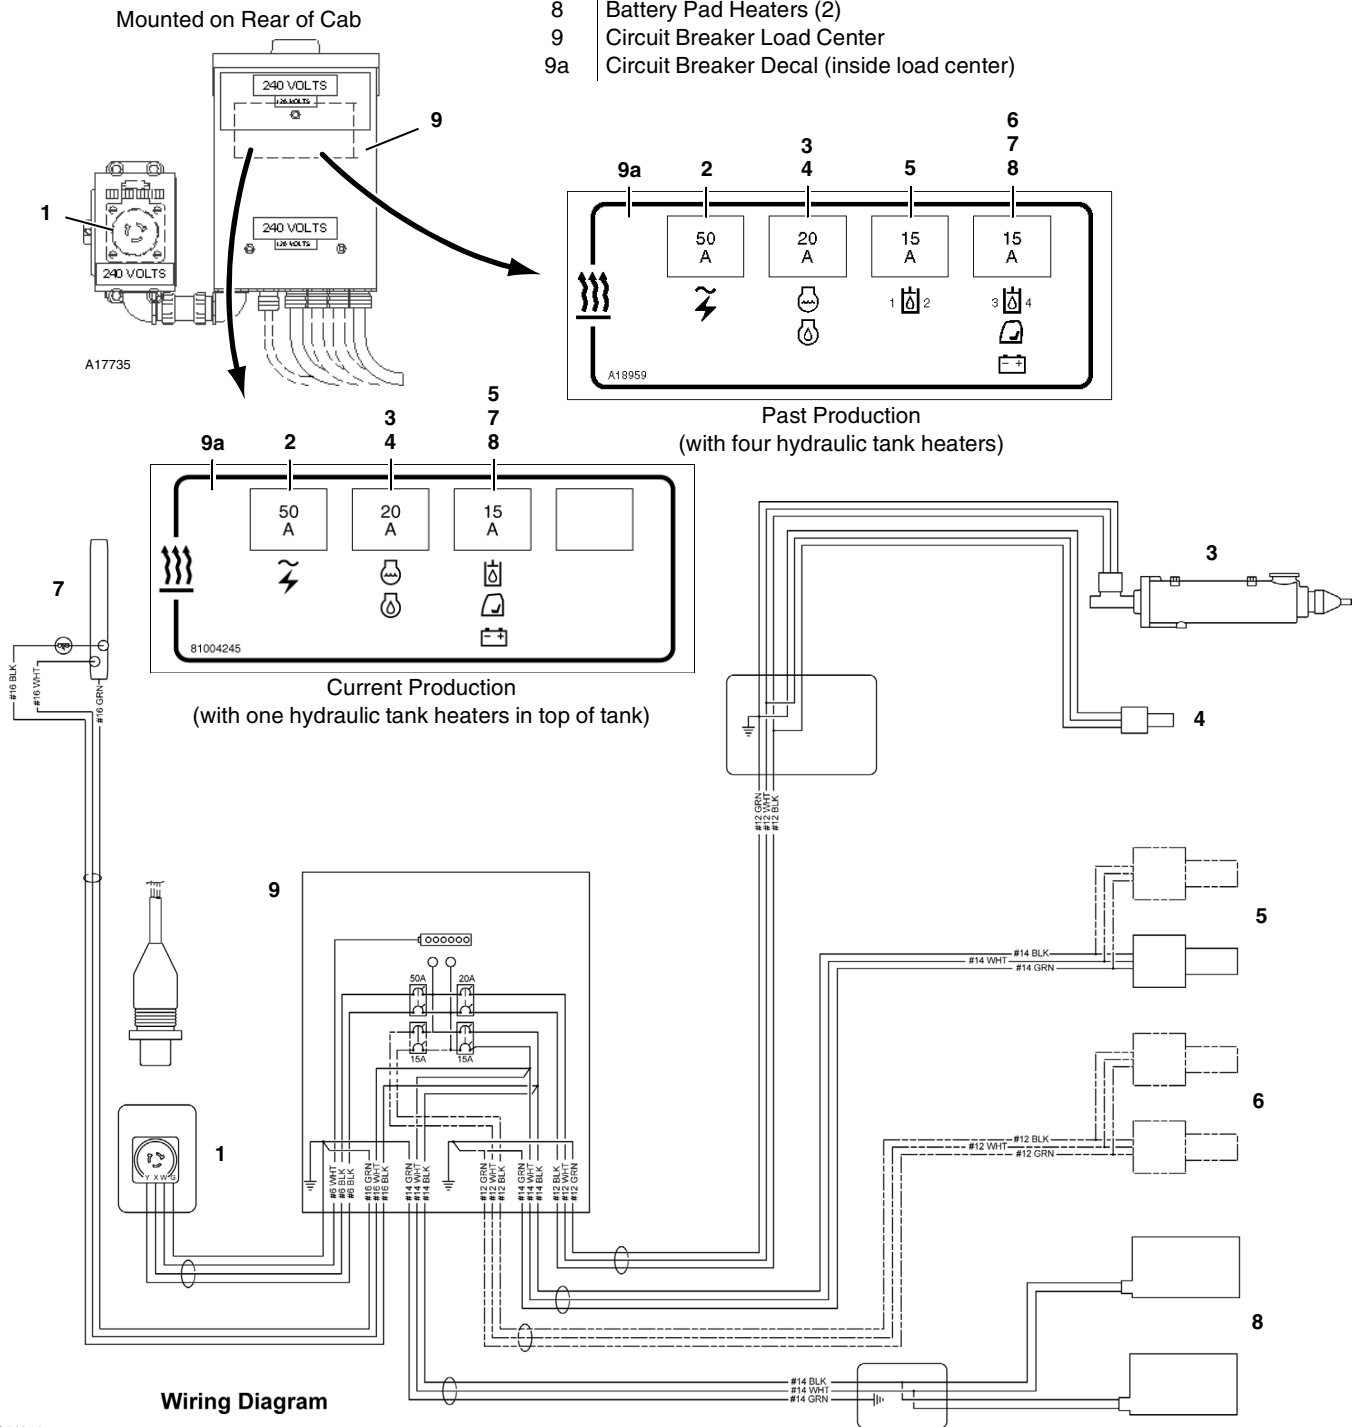

FIGURE 3-59
The 240 volt receptacle and circuit breaker panel is mounted on the rear of operator's cab (see Figure 3-59).
- a. Check that main circuit breaker and each heater circuit breaker is off (see Figure 3-59).